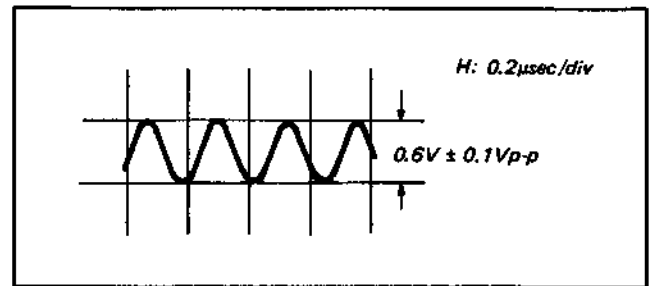

Fig. 4-4-22. Output level check
- (1) Set up the PLAY mode.
- (2) Connect the frequency counter to emitter of Q90.
- (3) Adjust T7 for an oscillating frequency of 4.40625 MHz.
- (4) Check that the output level is $0.6 V \pm 0.1 V_{p-p}$. (See Fig. 4-4-22.)